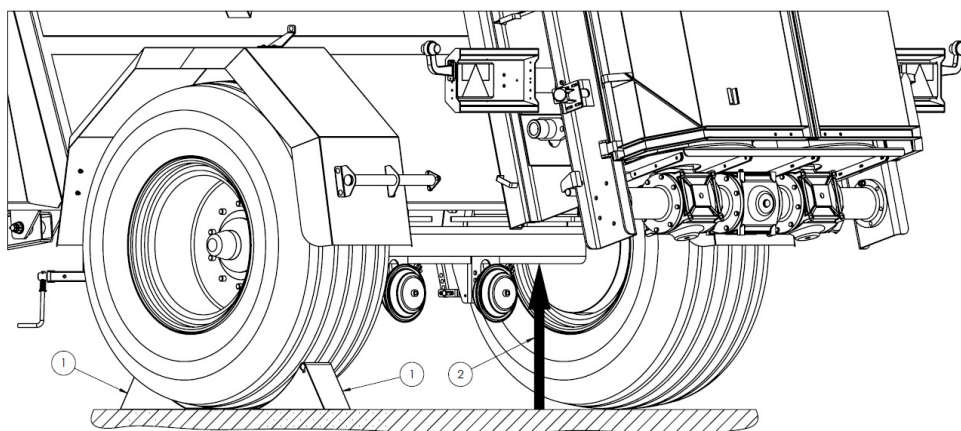

Figure 28 The jacking points
If the wheel needs to be lifted off, use the jacking points (2) under the axle. The lifting point is shown in Figure 28. Place the safety chocks (1) under one wheel only.